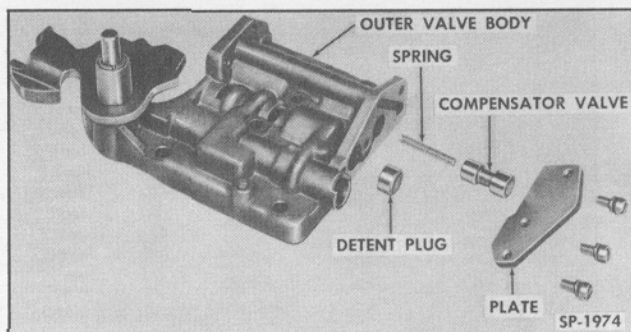

Fig. 42—Disassembled View of Compensator Valve
3. Remove the three outer valve body front plate attaching screws, the front plate, compensator valve, compensator valve spring and throttle valve detent plug (Fig. 42).